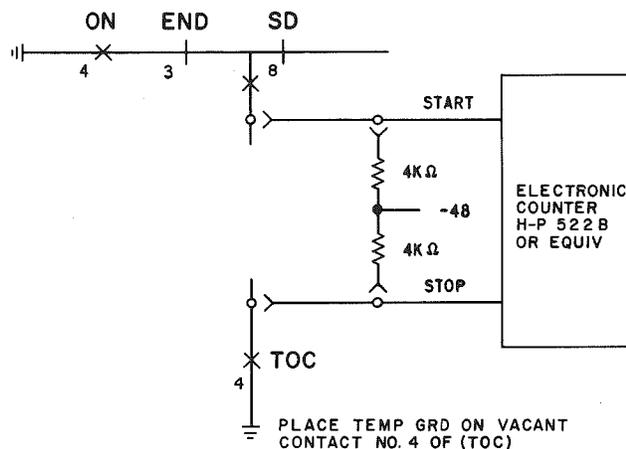

Fig. 2—Typical Connections Using Electronic Counter for Test B
3.12 On electronic counter, place two 4000-ohm resistors in series and connect -48Vdc to the center. Connect the other ends of the resistors to the start and stop leads of the counter. Set the dials to display milliseconds. Connect the start lead to contact 8M of SD relay and the stop lead to vacant contact 4M of TOC relay. Connect a temporary ground on vacant stationary contact 4 of TOC relay. See Fig. 2.